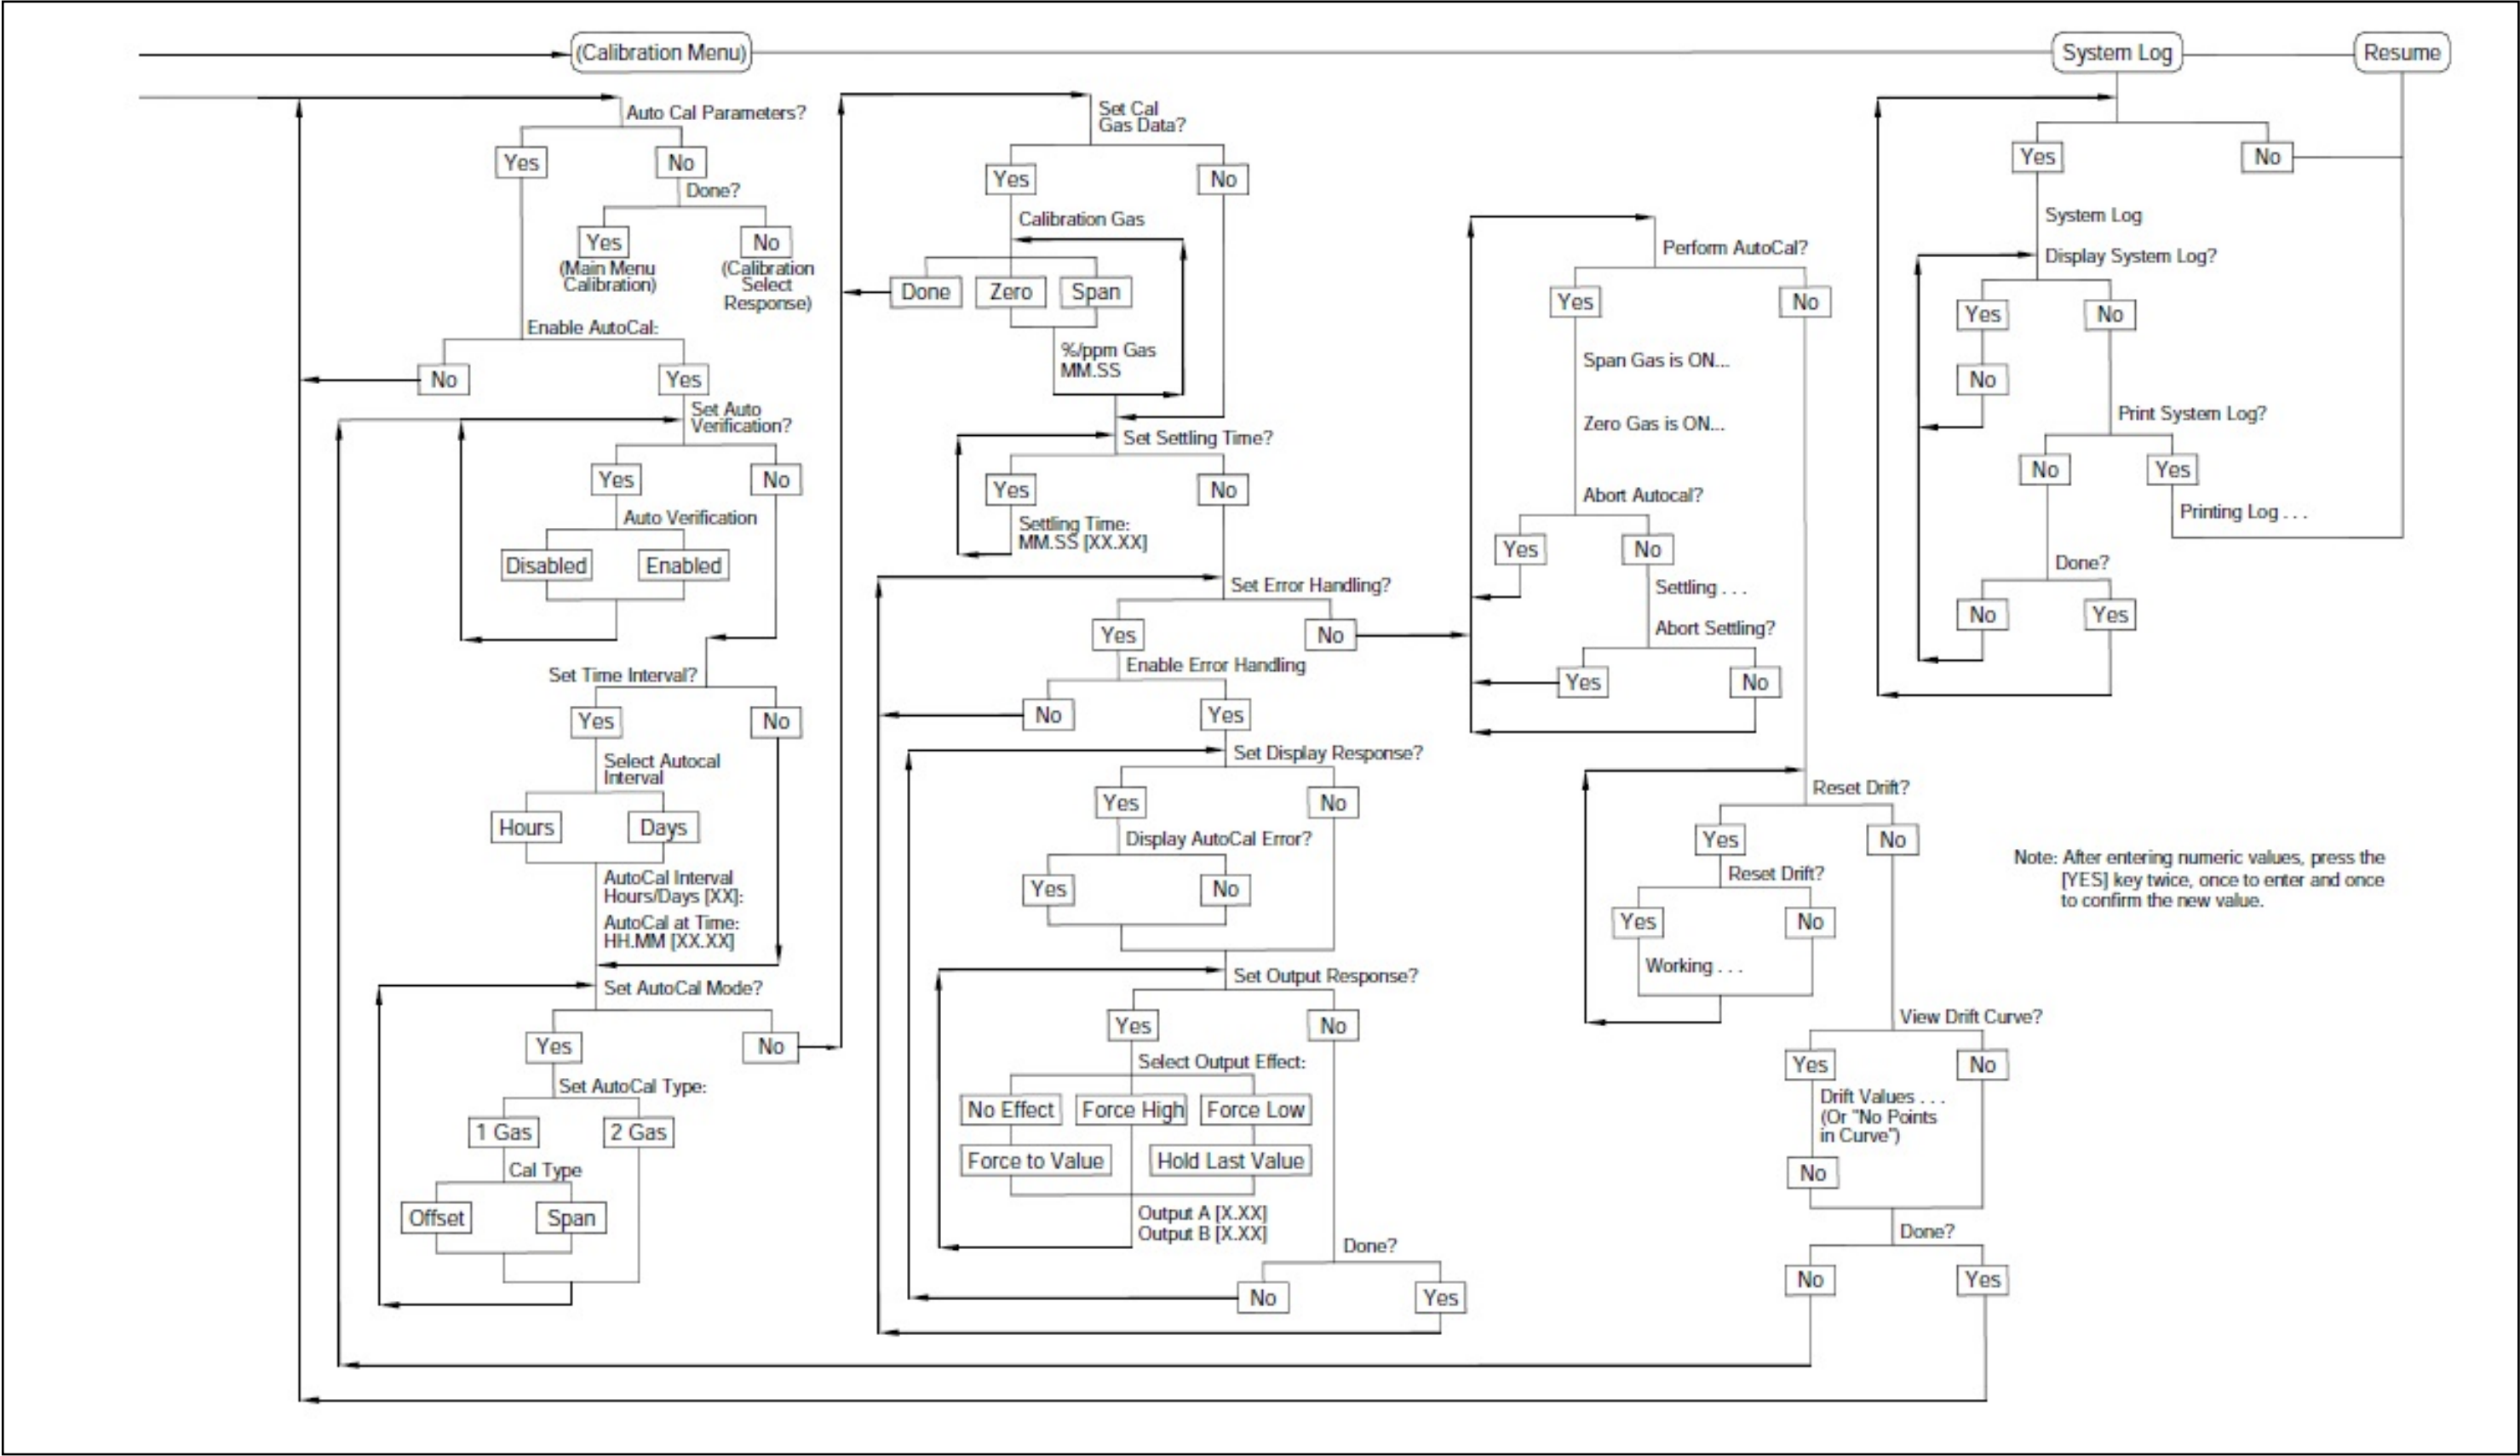

Figure 29: Main Menu: Calibration (Auto Cal Param.), System Log, & Resume
- *Figure 29:* Main Menu: Calibration (AutoCal Param.), System Log & Resume